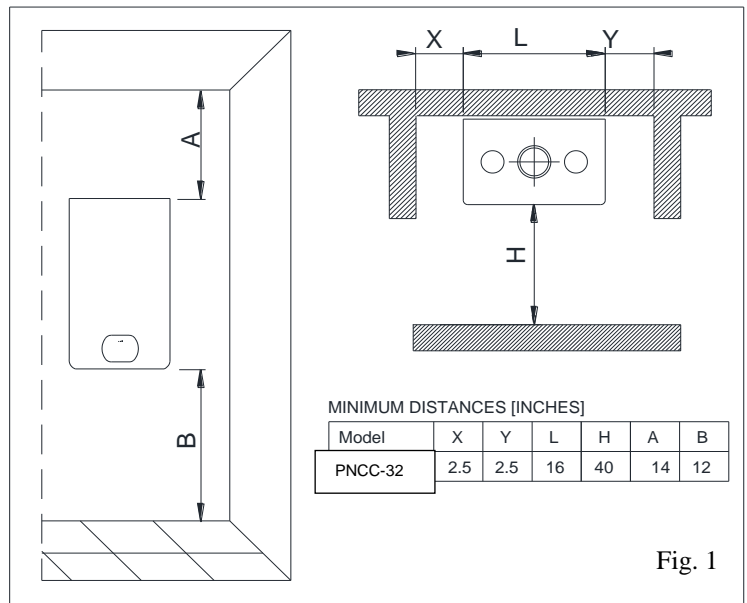

Fig. 1
A. Place the packed appliance on the floor (see fig. 1) Remove the staples and open the four flaps of the box.
In order to allow access to the interior of the boiler for maintenance purposes, it is important that the minimum distances indicated in figure 1 are respected. To make the installation easier, the boiler is supplied with a template to enable the pipe connections to be positioned prior to fixing the appliance to the wall.